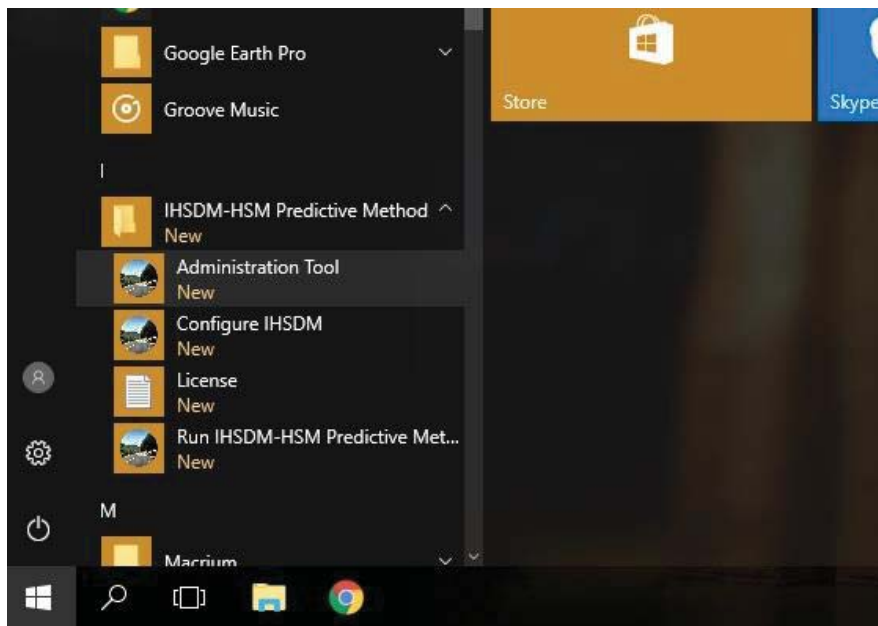

Figure C.10 Opening the IHSDM Administration Tool
Step 1: Open the IHSDM Administration Tool from the Start menu (Figure C.10).